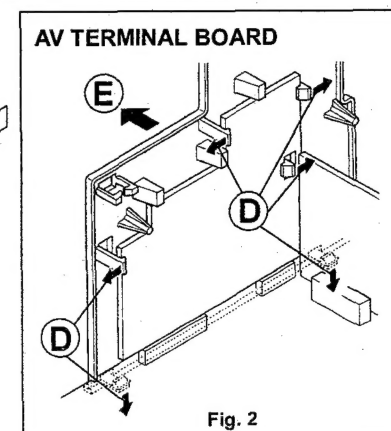

Fig. 2
2. While raising the claw marked "D", remove the top of the AV TERMINAL BOARD slightly in the direction of arrow "E" as shown in Fig. 2.